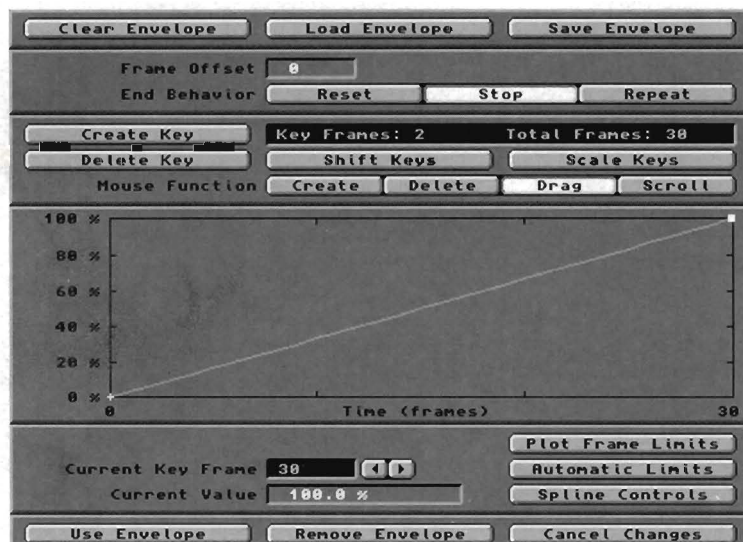

Figure 1
- Set up a Foreground Dissolve envelope to fade from 0% at frame 0 to 100% dissolved (or vice versa) at the end of the sequence. For example, if you are using a sequence of 30 frames, set up your dissolve envelope so it looks like Figure 1.